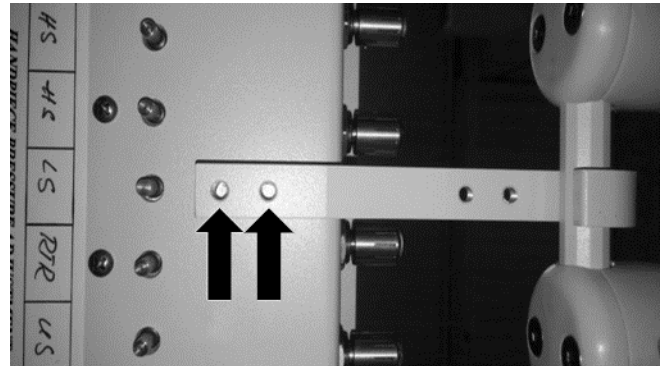

Fig. 2
- 4 Place finger bracket on holder bar and align with underside of baseplate. Mark positions of screw holes using felt-tip pen or pencil. Using 10/32" bit, drill holes at marked locations. (Fig. 2)